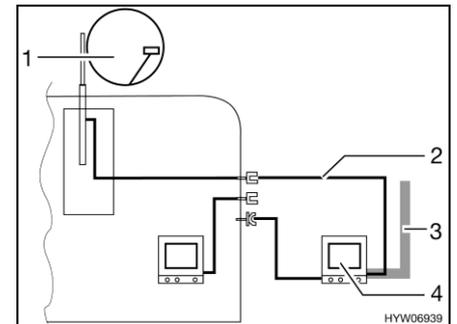

Fig. 223 TV in the awning
- TV inside the awning (Fig. 223,4): Connection to roof antenna (Fig. 223,1) with connection cable (Fig. 223,2)
- TV inside the awning (Fig. 223,4): Connection to external antenna (Fig. 223,3)